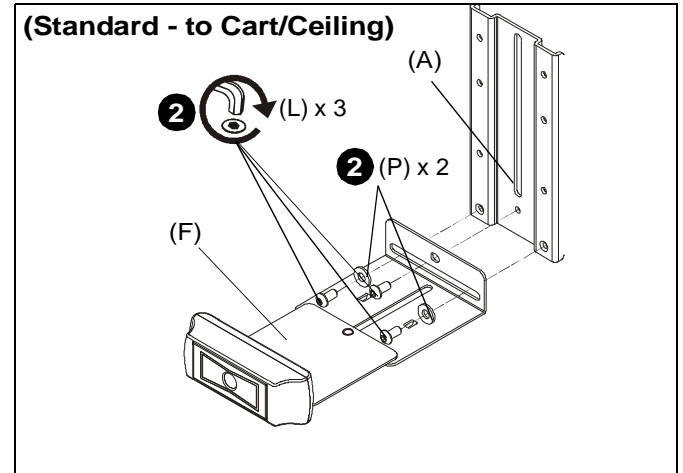

Figure 18
2. (Standard to cart/ceiling) Use three 1/4-20 x 1/2" button head cap screws (L) and two large washers (P) to secure camera mount (F) to upright bracket (A). (See Figure 18)